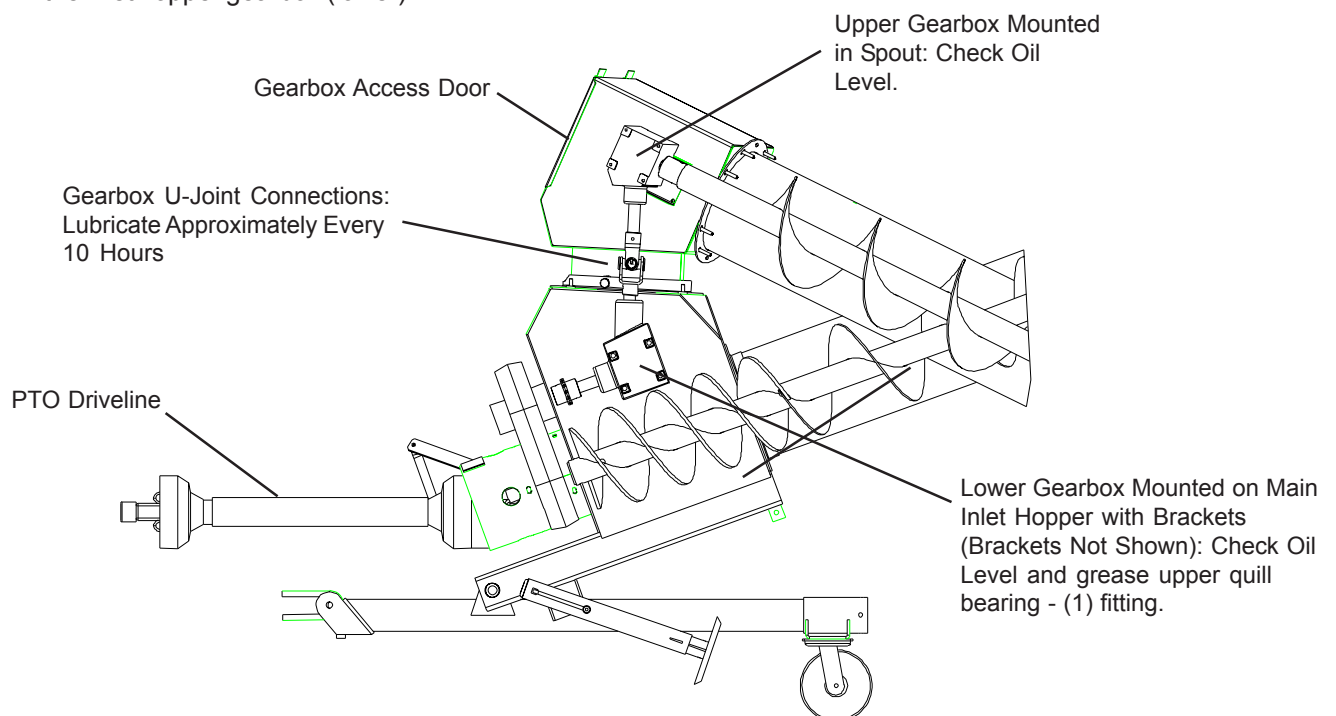

Fig. 6
- A. Fig. 6 on page 59, identifies the gearbox u-joint that requires lubrication. Lubricate once every ten (10) hours using a SAE multipurpose type grease. Use a grease gun with a rubber hose tip.